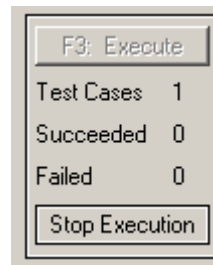

Figure 24 Script Server Window (Stop Execution)
5. The Script can be terminated normally or can be stopped by clicking on the “Stop Execution” button in the “Script Server” window as shown in Figure 24.